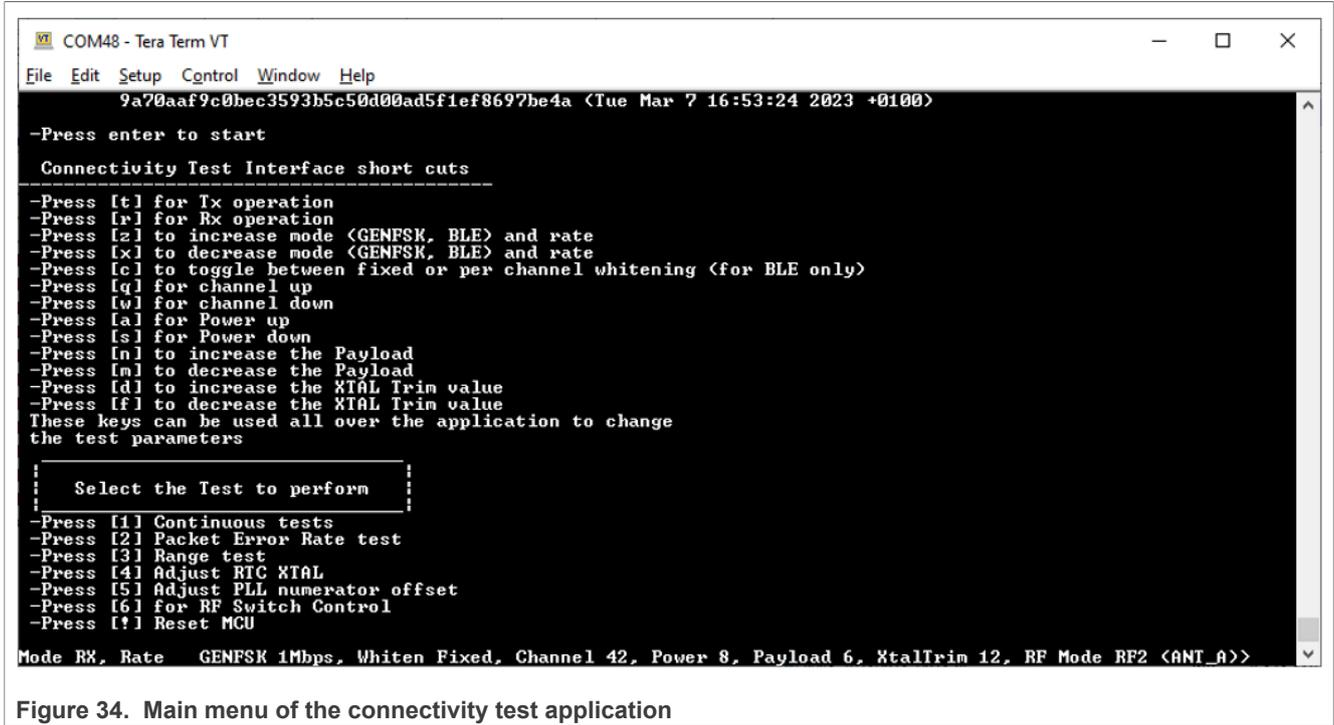

Figure 34. Main menu of the connectivity test application
- Press "Enter" on the keyboard until you see the menu shown in Figure 34.